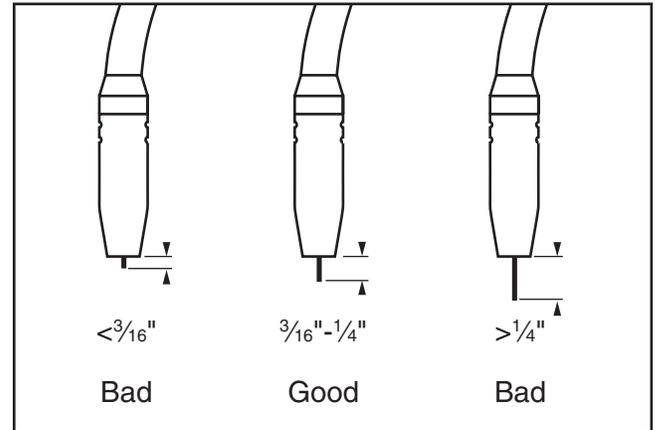

Figure 23. Contact tip to work distance.
- Squeeze trigger so wire begins to feed into weld. Once wire makes contact with workpiece, arc will start and weld pool will begin to form. Maintain consistent distance between contact tip and workpiece of $\frac{3}{16}$ "— $\frac{1}{4}$ " (see **Figure 23**).